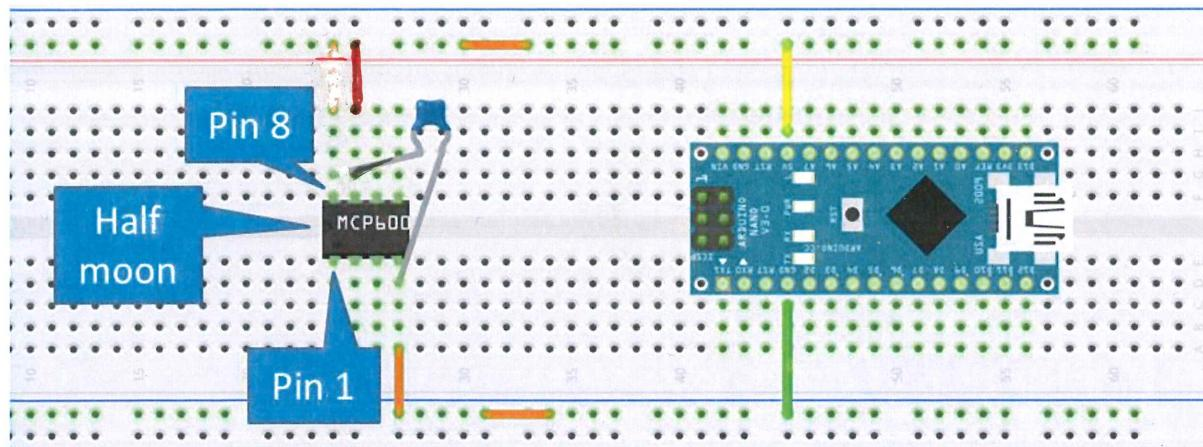

Figure 5: Breadboard layout showing the Op amp orientation and its power pin connections. Note, the circuit is **not complete**.
4. For today's lab we ask you to put the op amp in the breadboard so that pin 1 is on the same side as the Arduino digital outputs (figure 5). The main reason is consistency, it will help us while debugging many individual's circuits. Another benefit is the VDD pin is on the same side of the board as the Arduino 5V pin so wiring will be easier.